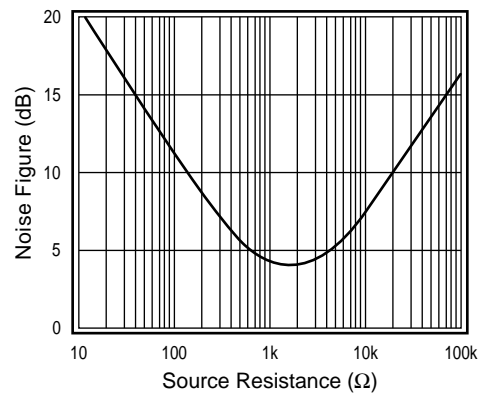

Figure 8: Noise Figure vs. Source Resistance
In RF applications, noise is frequently specified as Noise Figure (NF). This allows the calculation of signal to noise ratio into a defined load. Figure 8 plots the NF for a CLC446 at a gain of 10, and with a feedback resistor  $R_f$  of  $100\Omega$ . The minimum NF (3.9dB) occurs when the source impedance equals  $1600\Omega$ .